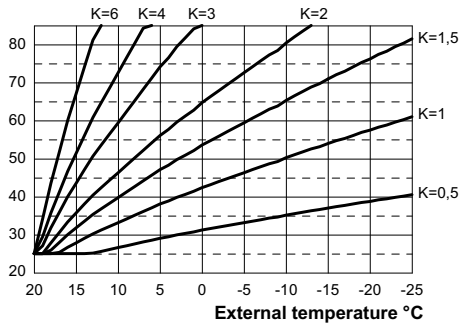

Fig. 7.16
If the boiler is **EQUIPPED** with the remote control (optional) refer to Fig. 7.16. In this case K setting must be done from the remote control.
When installing the external probe it is necessary to set this parameter based on the efficiency of the heating plant in order to optimise the flow temperature (Fig. 7.16).
E.g. In order to have a flow temperature at the heating plant of 60°C with an external temperature of -5°C, set a K at 1.5 (sectioned line in Fig. 7.16).
- Using keys 10 or 11 it is possible to change the value of parameter 15 from a minimum of **01** to a maximum of **60** based on the selected bend of the K coefficient in Fig. 7.16 (the value read on the display corresponds to K coefficients decimal values).